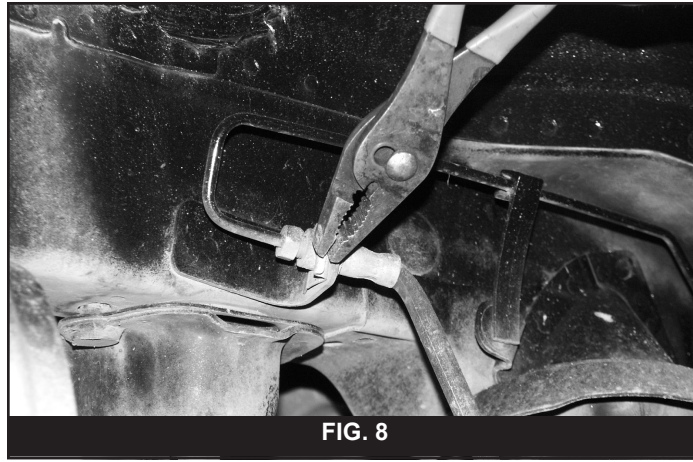

FIG. 8
32. Remove the retaining clip holding the brake line to the body and remove the brake line (Fig 8). On the driver's side it will be necessary to remove the brake line bracket at the wheel knuckle as well.